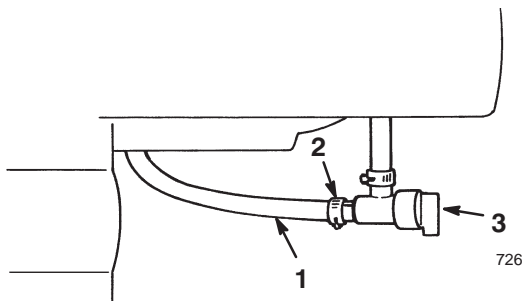

Figure 15
- **Fuel Shutoff Valve** (Fig. 15)—Close the valve by rotating it clockwise. Open the valve by rotating it counterclockwise. Close the valve when you do not use the snowthrower.
- Open the fuel shutoff valve below the fuel tank (Fig. 15).
6. Close the fuel shutoff valve (Fig. 15).